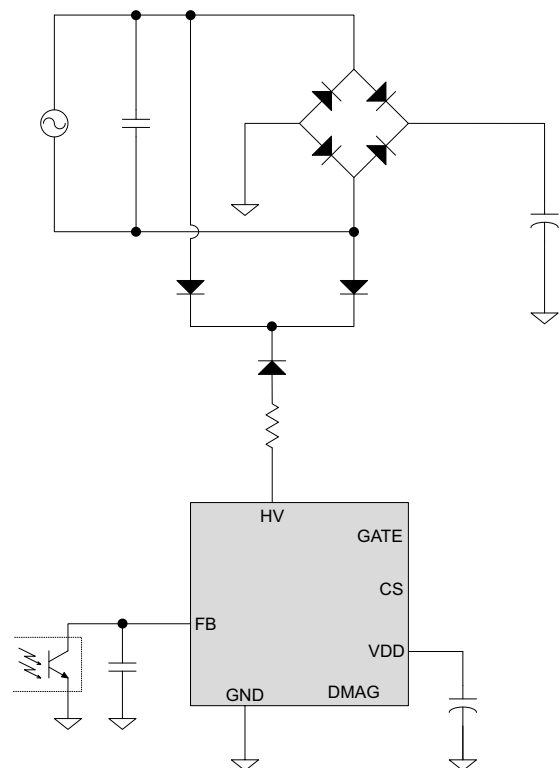

Figure 19. HV Start-Up Application Circuit
The High Voltage (HV) pin also features Brown-in, Brown-out and Bleeding Resistor Removal functions. The HV pin should be connected to the input terminals through rectifier diodes and a zener diode for Brown-in/Brown-out and Bleeding Resistor Removal functions. The HV start-up application circuit is shown as Figure 19.